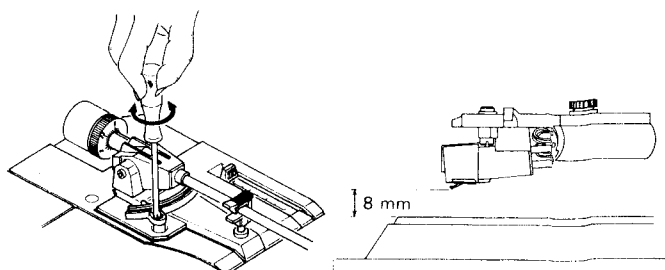

Fig. 22
## 6-(3) Tonearm Elevator-height Adjustment (Fig. 22)